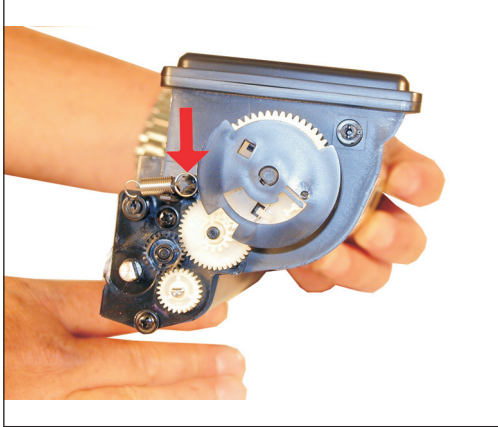

Figure 22
19) Install the spring large loop side on the large toner hopper post. See Figure 22